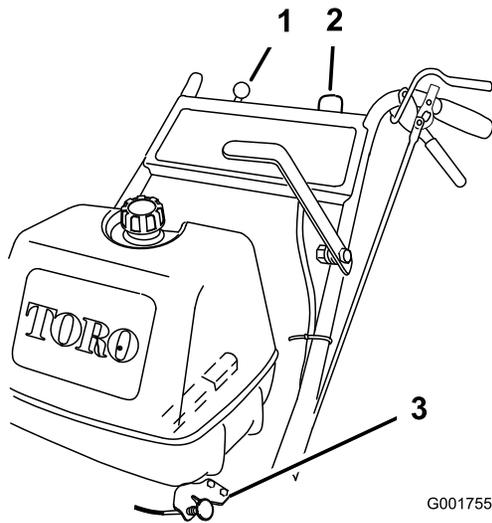

Figure 8
5. Turn the ignition key to the **run** position (Figure 8).
8. Pull the choke knob if the engine is cold (Figure 8).
1. Move the throttle lever to the slow position (Figure 8).